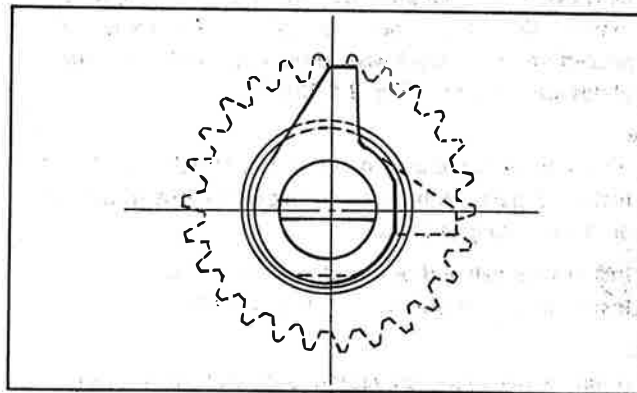

Fig. 3-4-10
2. While keeping the kick stopper (ratchet wheel) upwards, engage the kick axle return spring with the slot on end of the kick axle. (Fig. 3-4-10)